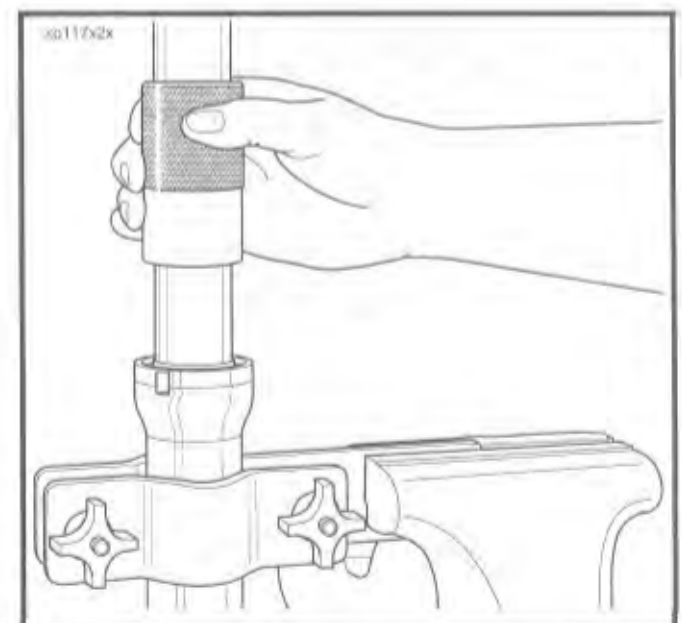

Figure 2-69.
6. See Figure 2-69. Drive the guide bushing with the spacer seal into the slider.